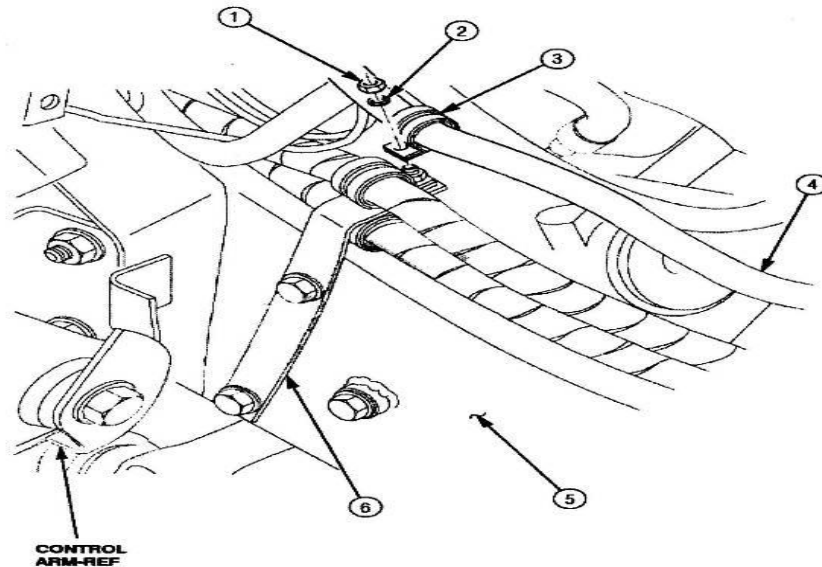

Figure 24
(5) Remove nut (1), washer (2), clamp (3), and hose (4) from bracket (6) on frame rail (5). Discard nut (1), washer (2), and clamp (3), refer to **Figure 24**.